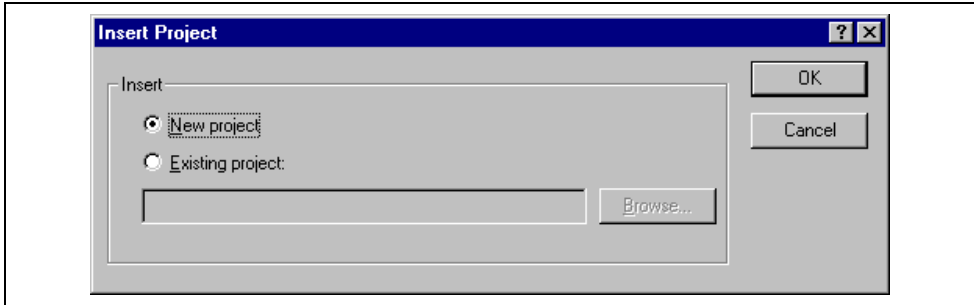

Figure 2.23: [Insert Project] Dialog
1. Select **[Project->Insert Project...]**. The “Insert Project” dialog will be displayed (figure 2.23).